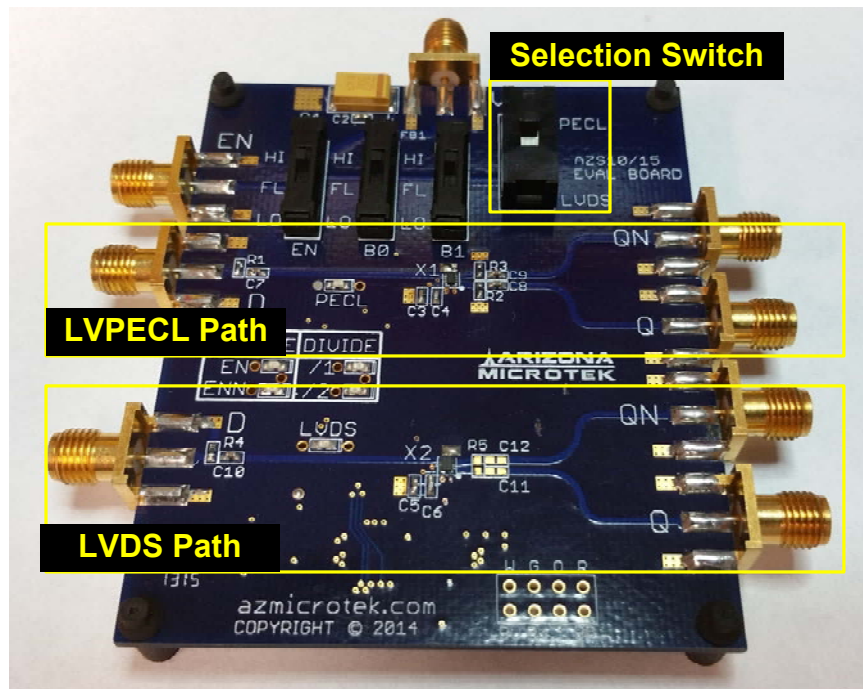

Figure 1
The AZS10EVB evaluation board is designed to evaluate all the operational modes of the AZS10. Since the output loading is different between LVPECL and LVDS logic levels, two (2) instances of the AZS10 are mounted to the board and have their own independent signal paths (Figure 1). To minimize interface between the DUTs, only one signal path is active at a time and the selection is made through the PECL/LVDS switch.